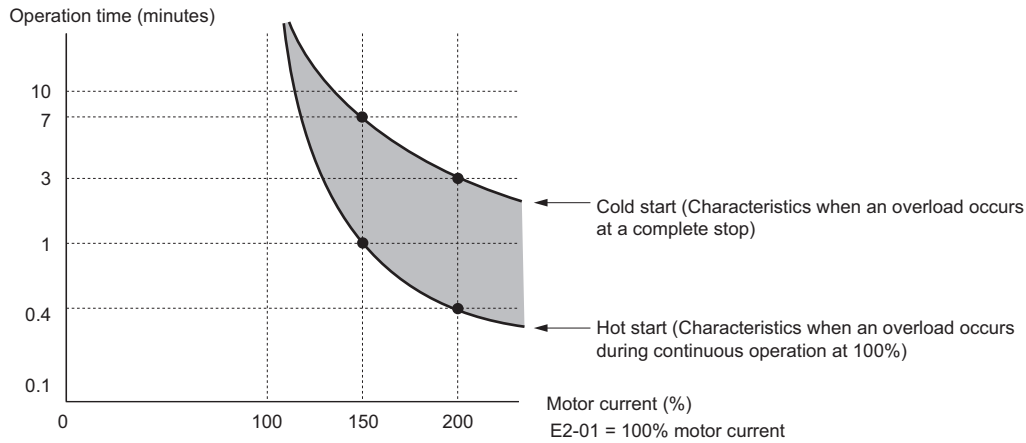

Figure 5.90 Protection Operation Time for General Purpose Motors at the Rated Output Frequency
- **Figure 5.90** shows an example of the electrothermal protection operation time using a general-purpose motor operating at 60 Hz with L1-02 set to one minute.